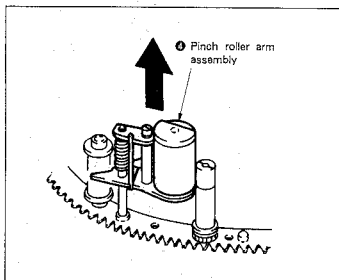

Fig. 7-17.
-) Remove pinch roller arm assembly ④ in the direction of arrow. (See Fig. 7-17.)